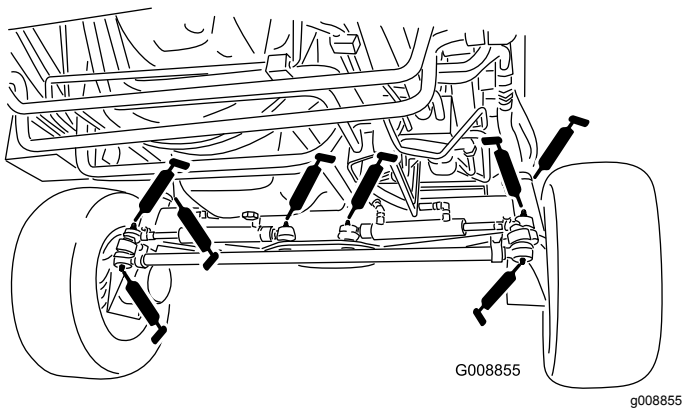

Figure 78
- 4 steering-cylinder-ball joints (Figure 78)
- 2 tie-rod-ball joints (Figure 78)
- 2 king-pin bushings (Figure 78)